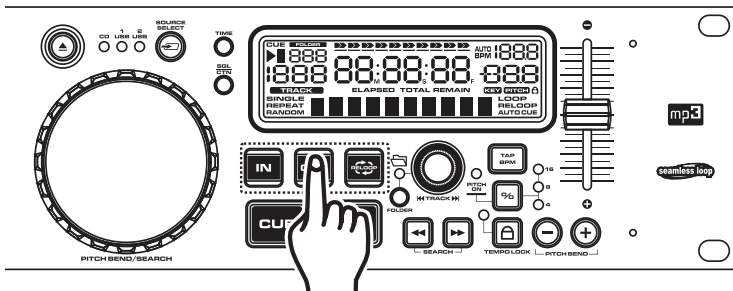

Figure 23
3) Press the *OUT BUTTON (17)* to set the ending point for your SEAMLESS LOOP (Figure 23). The *OUT* and *IN* BUTTONS will stay lit indicating a SEAMLESS LOOP is playing. Press the *OUT BUTTON* again to stop the Loop.